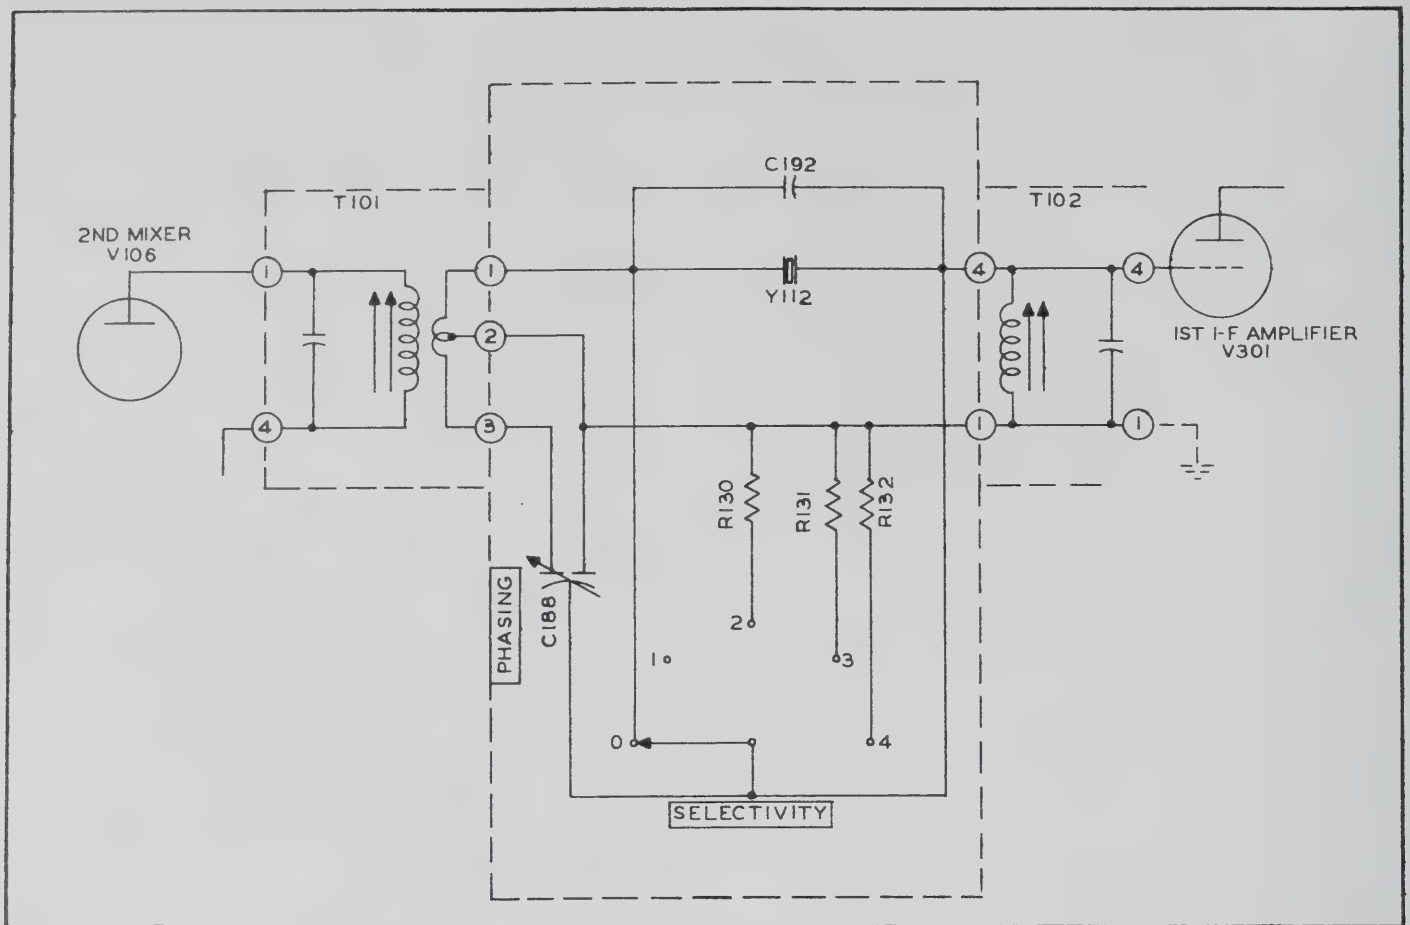

Figure 4-4. 51J-4 Crystal Filter
4.2.7. CRYSTAL FILTER. - Selectivity of the 51J-4 Receiver is improved greatly by use of a crystal filter in the 500-kc i-f channel. The crystal filter circuit consists primarily of 500-kc i-f input transformer T101, a 500-kc crystal, and a high impedance tuned circuit T102, connected as shown in figure 4-4. When SELECTIVITY switch S114 is in position 0 the crystal is shorted and T101 is connected directly to T102. Thus there is no crystal filter action when S114 is in position 0; selectivity is determined by the receiver's tuned circuits alone. When S114 is in any other position, crystal filter action takes place--position 4 giving the greatest selectivity.